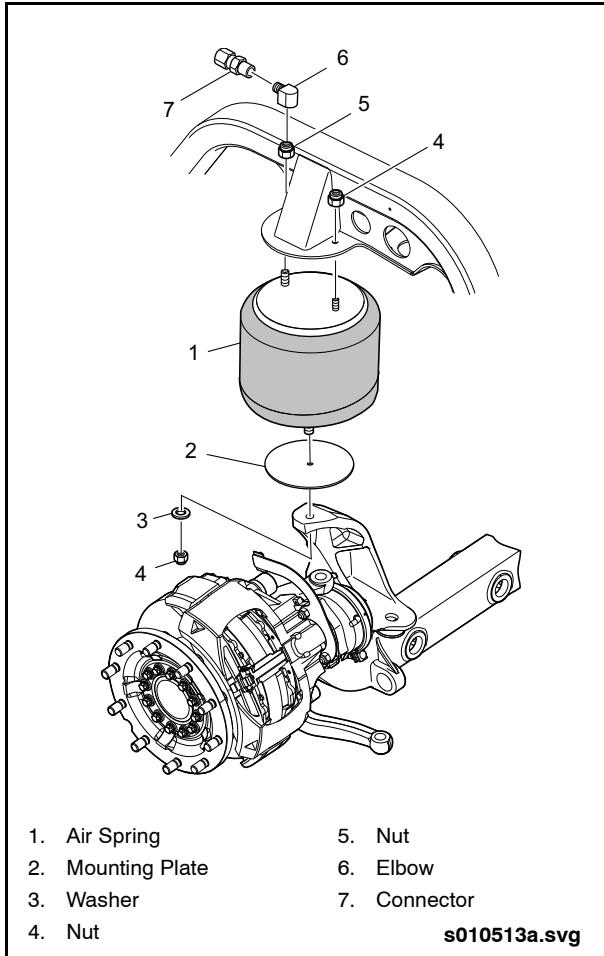

Fig. 1-35: Front Air Spring Removal & Installation
5. Disconnect air line. Remove lower nut attaching air spring to mounting plate. See "Fig. 1-35: Front Air Spring Removal & Installation" on page 34.